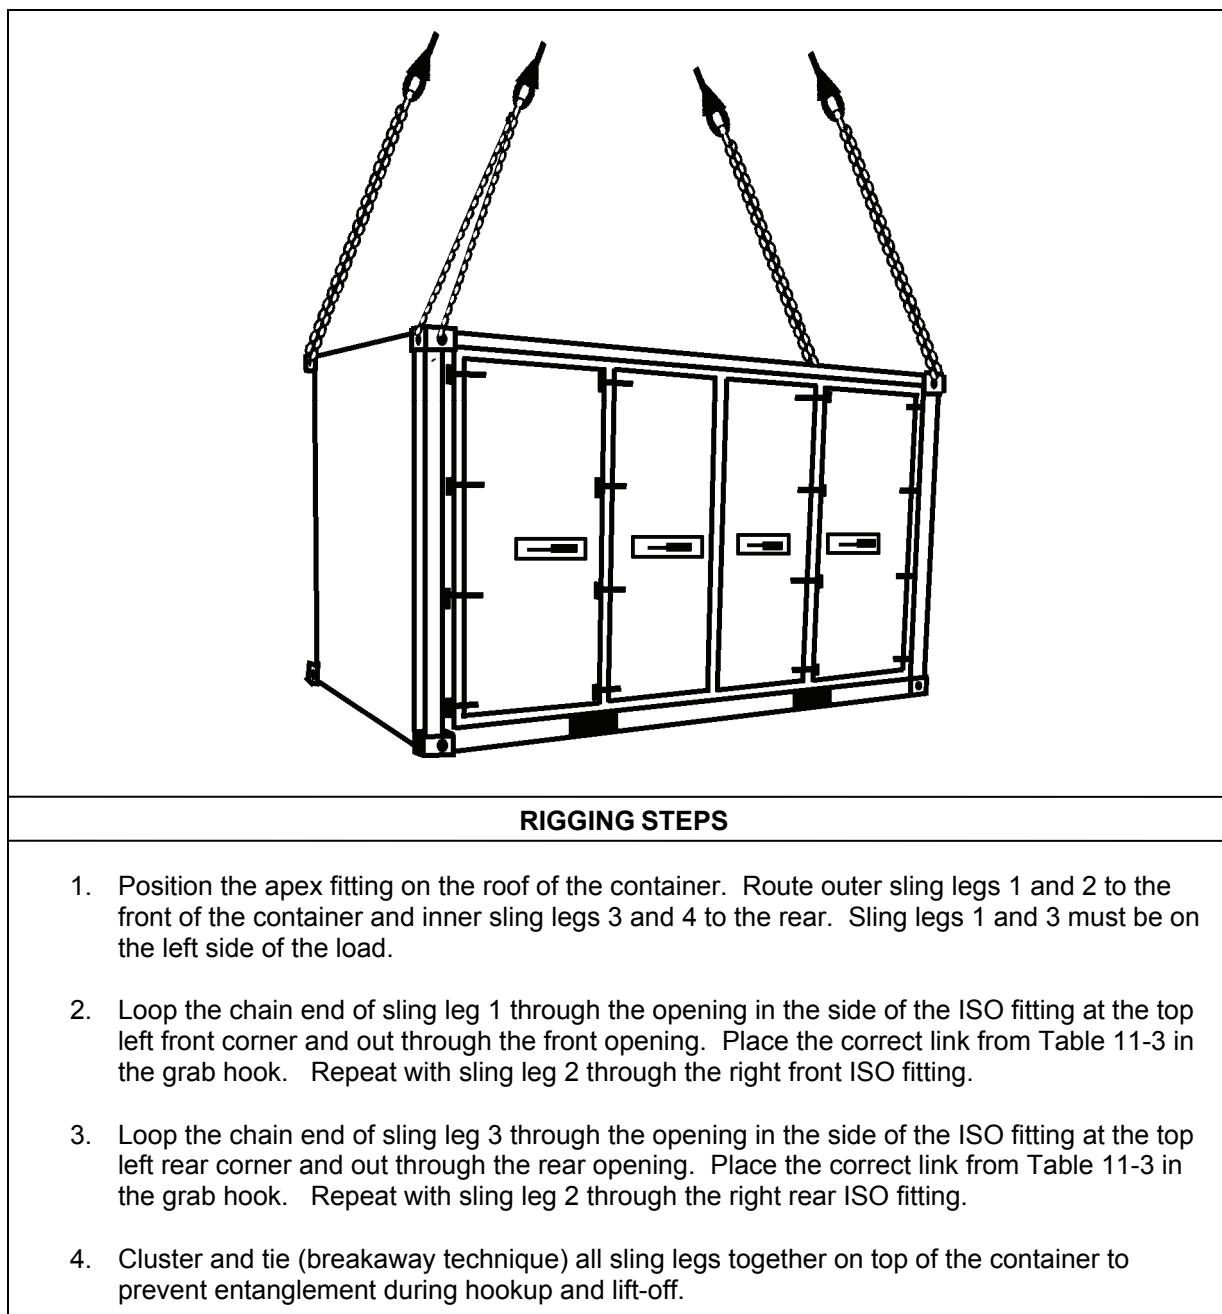

Figure 11-3. Authorized Stockage List Mobility Systems
- **Rigging.** Rig the load according to the steps in Figure 11-3.